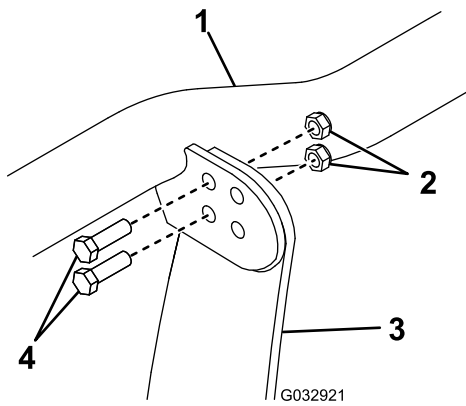

Figure 14
1. Secure the light bar to the top of the coupler tower through the rear holes using 4 bolts (3/8 x 1-1/4 inch) and self-locking nuts (3/8 inch) (Figure 14). Torque the bolts to 31 N·m (23 ft·lb).